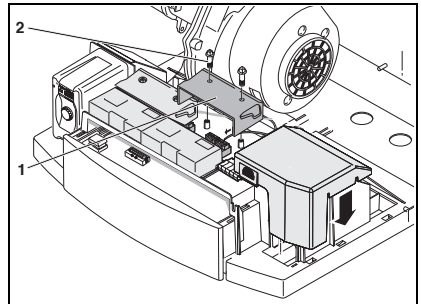

Fig. 6 Place cover of the module
- Then place the cover of the module (fig. 6, pos. 1) and tighten the screws (fig. 6, pos. 2) using a phillips screwdriver.